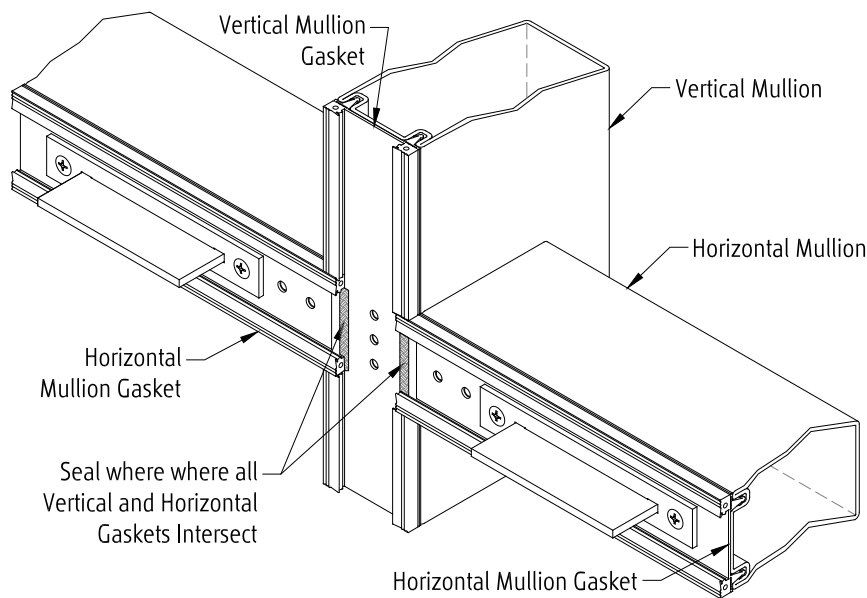

Figure 17 - Sealing Gasket Intersections
- b. Refer to Figure 17 for appropriate notch size and location.
- (1) Notches are to be centered with the centerline of the horizontal mullions.
- (2) Notches at jamb verticals are only made to inboard leg of gasket.
- (3) Notches at vertical intermediates are made to both legs of gasket.
- (4) DO NOT cut or remove gasket web or darts.
- (5) DO NOT oversize or MIS-LOCATE notches.